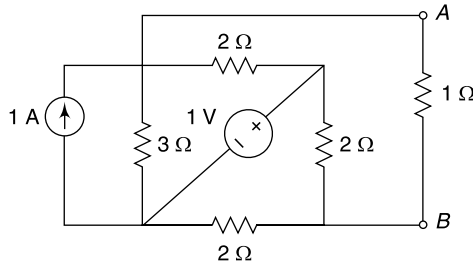

Fig. 4.134 Circuit of Ex. 4.134
4.103 Determine the current through the $1\ \Omega$ resistor connected across A, B of the network shown in Fig. 4.134 using Norton's theorem.
Removing the $1\ \Omega$ resistor and short-circuiting the terminals AB the circuit is redrawn as shown in Fig. 4.134(a). The $1\ \text{A}$ current source has been transformed into voltage source. Applying KVL to the three loops we get the following three equations: